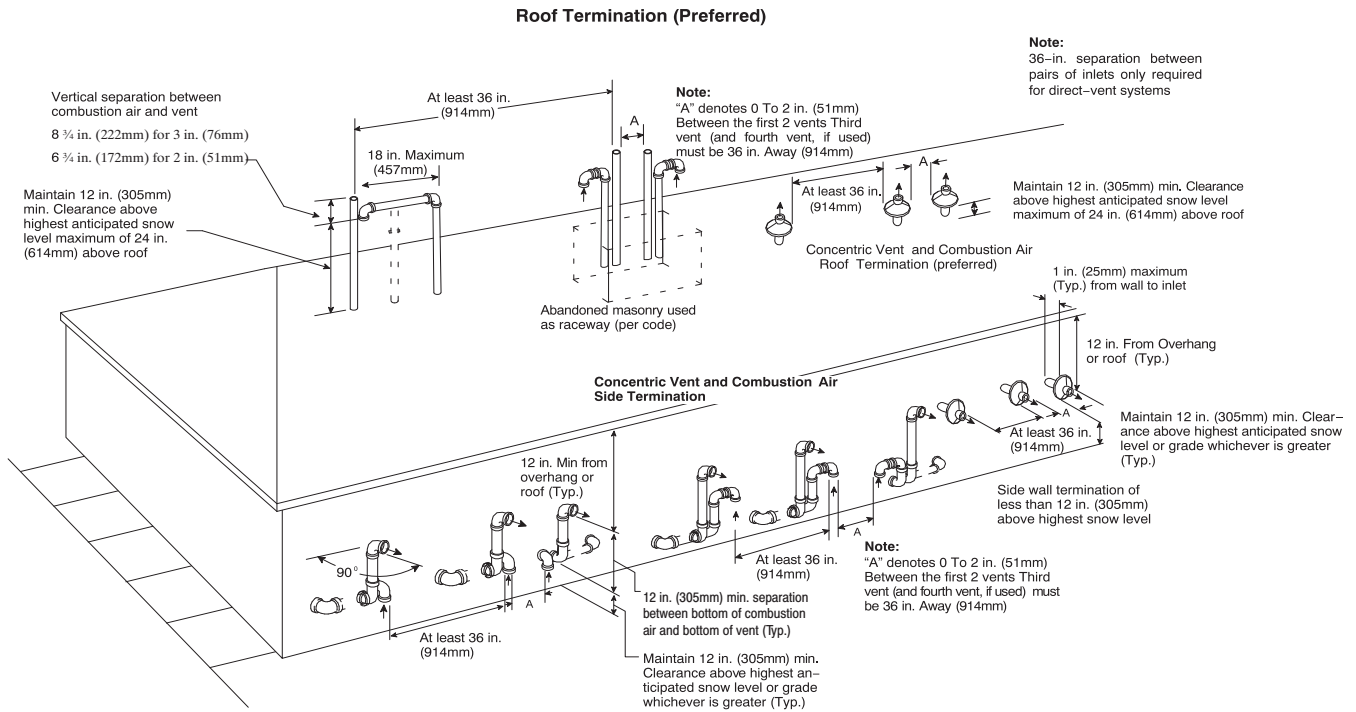
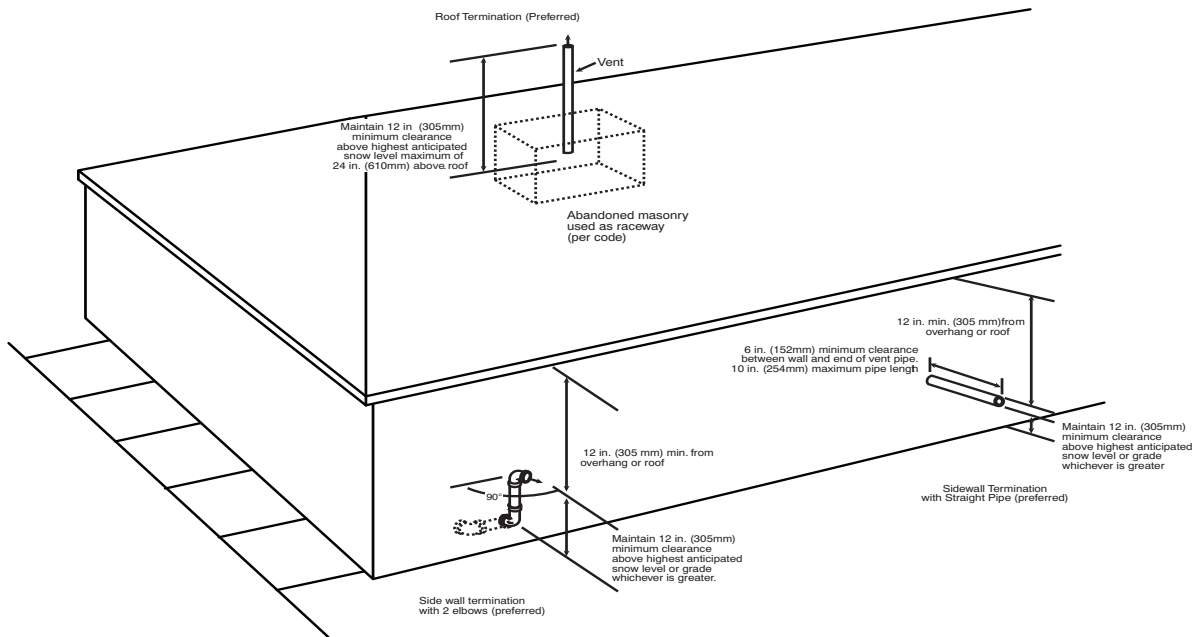
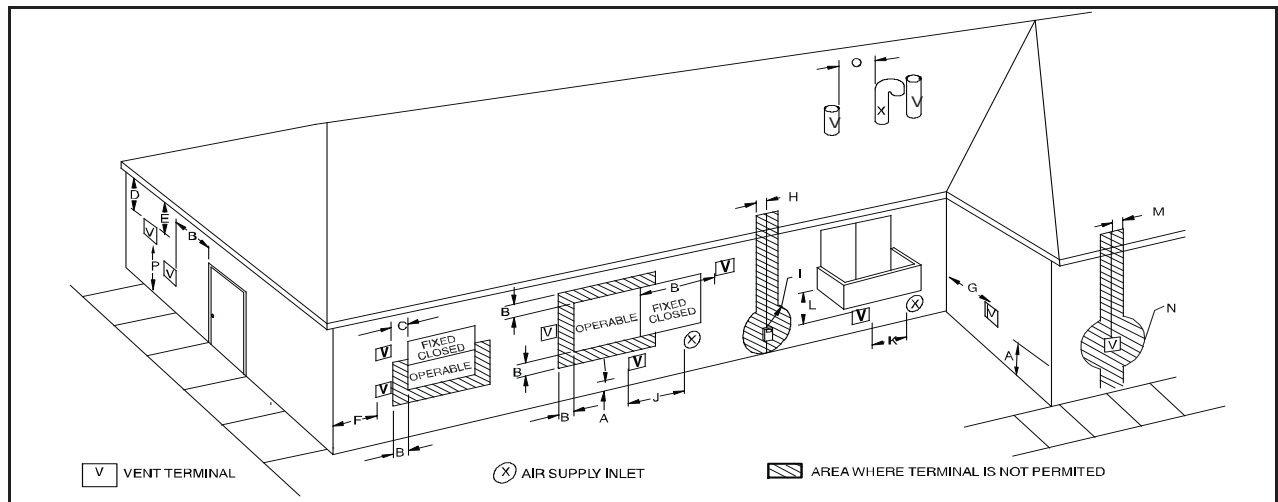
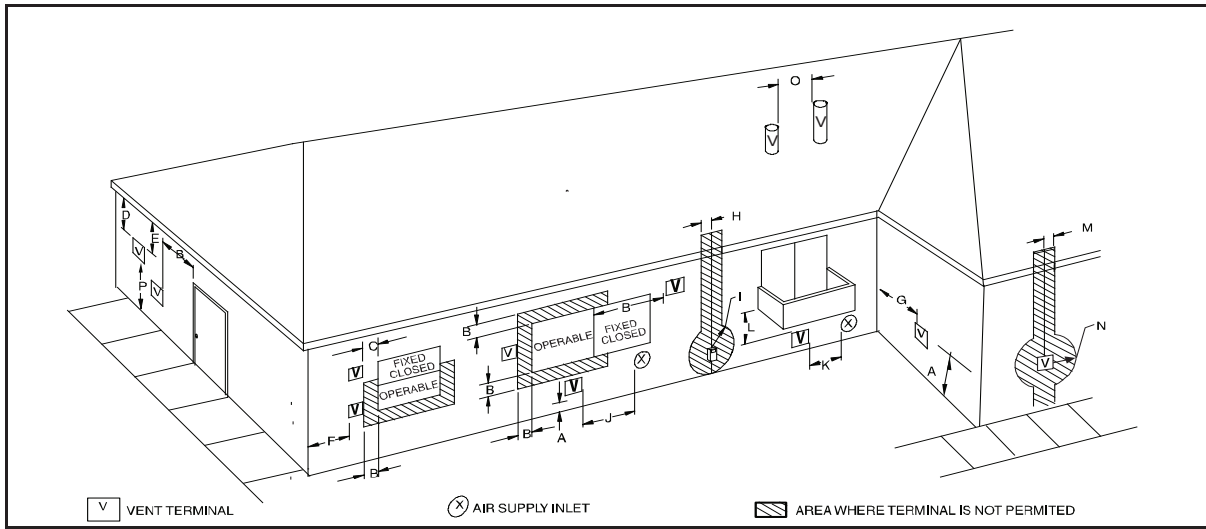

Fig. 39 – Combustion Air and Vent Pipe Termination for Direct Vent (2-Pipe) System
Fig. 40 – Vent Pipe Termination for Non-Direct Vent and Ventilated Combustion Air System
Fig. 46 – Direct Vent Termination Clearance
Fig. 47 – Ventilated Combustion Air and Non-Direct Vent Termination Clearance
An abandoned masonry chimney may be used as a raceway for properly insulated and supported combustion-air (when applicable) and vent pipes. Each furnace must have its own set of combustion-air and vent pipes and be terminated individually, as shown in Fig. 39 for Direct Vent (2-Pipe) system, or Fig. 40 for single-pipe or ventilated combustion air option.
For vent termination clearance, references to National codes are shown in Fig. 46 for Direct Vent/2-Pipe system and Fig. 47 for Ventilated Combustion Air/Non-direct Vent/1-Pipe system. For exterior termination arrangements, refer to Fig. 39 for Direct Vent/2-Pipe system and Fig. 40 for Ventilated Combustion Air/Non-Direct/1-Pipe system. Contact Local code authorities for other requirements to and/or exemptions from the National codes shown in the figures.
1. Comply with all clearance requirements stated in Fig. 46 or Fig. 47 per application.
Direct vent (2-pipe) vent and combustion air pipes must terminate outside the structure. See Fig. 46 For references to vent clearances required by National code authorities. Allowable vent and combustion air terminations are shown in Fig. 39.
The vent pipe for a Ventilated Combustion Air System must terminate outdoors. See Fig. 47 for references to vent clearances required by National code authorities. Allowable vent terminations are shown in Fig. 40. The combustion air pipe terminates in a well-ventilated attic or crawl space. Follow the clearances as shown in Fig. 45.
The vent pipe for a Non Direct Vent (1-pipe) system must terminate outdoors. See Fig. 47 for references to vent clearances required by National Code authorities. Allowable vent terminations are shown in Fig. 40.